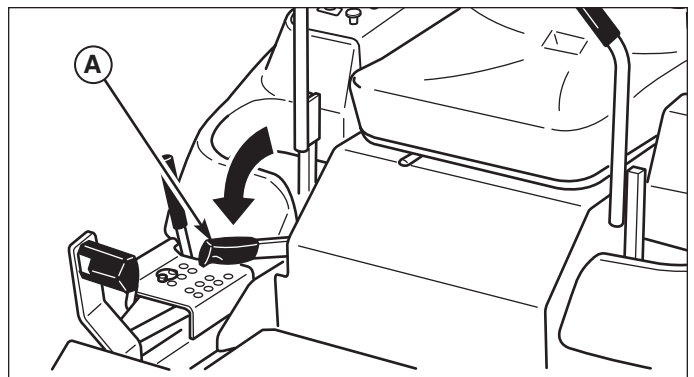

Figure 2. Disengaging the Parking Brake
4. Push down on the parking brake lever (A, Figure 2) to release the parking brake.